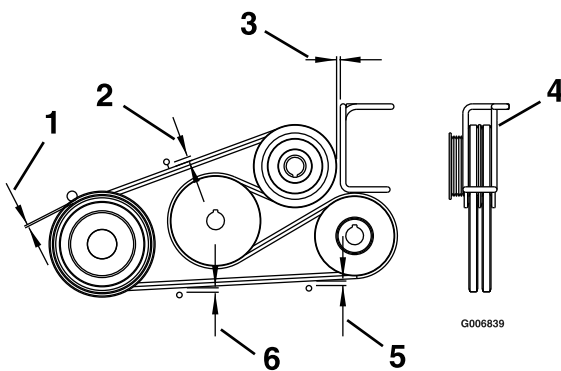

Figure 60
- Adjust belt guides as shown in Figure 60.